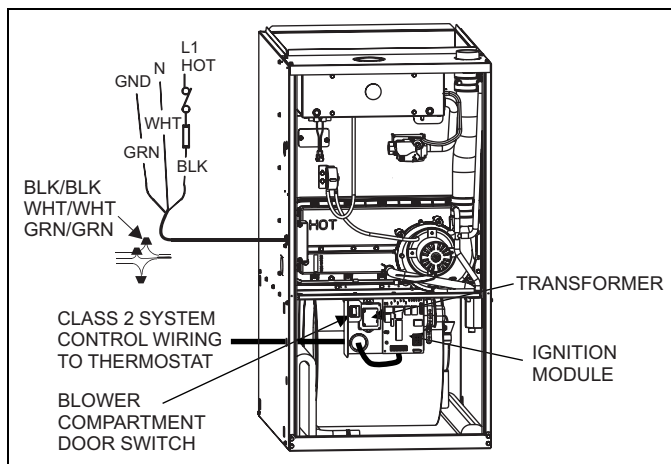

FIGURE 4: Electrical Wiring
Some utility companies or local codes require pipe sizes larger than the minimum sizes listed in these instructions and in the codes. The furnace rating plate and the instructions in this section specify the type of gas approved for this furnace - only use those approved gases. The installation of a drip leg and ground union is required. Refer to Figure 4.
2. Remove the screws retaining the junction box cover. Route the power wiring through the opening in the unit into the junction box with a conduit connector or other proper connection. In the junction box there will be three wires, a Black Wire, a White Wire and a Green Wire. Connect the power supply as shown on the unit-wiring label on the inside of the blower compartment door or Figure 4. The black furnace lead must be connected to the L1 (hot) wire